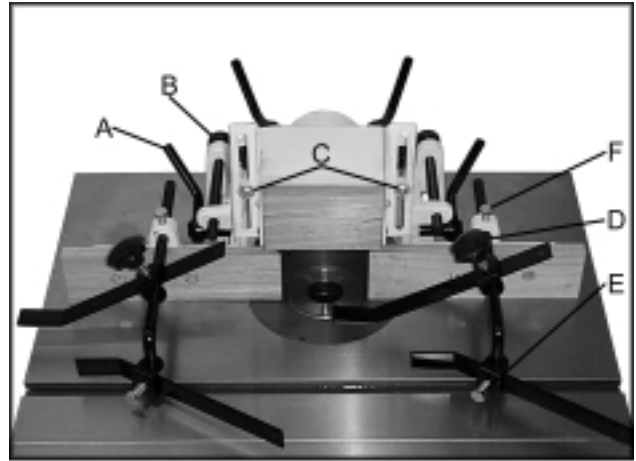

Fig. 7
1. Adjust fences by loosening ratcheting handle (A, Fig. 7), turn knob (B, Fig. 7) to adjust fence in or out, and tighten ratcheting handle.
2. Adjust spindle guard height by loosening two screws (C, Fig. 7), sliding guard up or down to desired height, and then tightening screws.
3. Hold down guides can be adjusted by loosening knob (D, Fig. 7).
4. Hold in guides can be adjusted by loosening hex cap screw (E, Fig. 7).
5. Guide supports can be adjusted by loosening hex cap screw (F, Fig. 7).